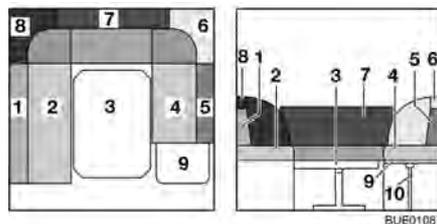

Fig. 90 During conversion
- Place support (Fig. 90,10) into the holder on the bedding box extension.
- Remove the back cushions (Fig. 90,1, 5, 6, 7 and 8) and lay them aside.